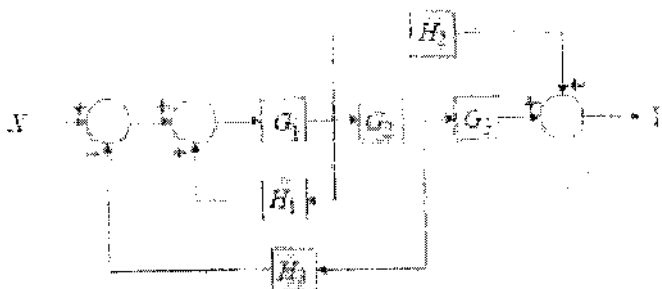

Figure Q.7 (b)
- b) Figure Q. 7 (b) shows a block diagram. Simplify and find the relation between Y/X. 8